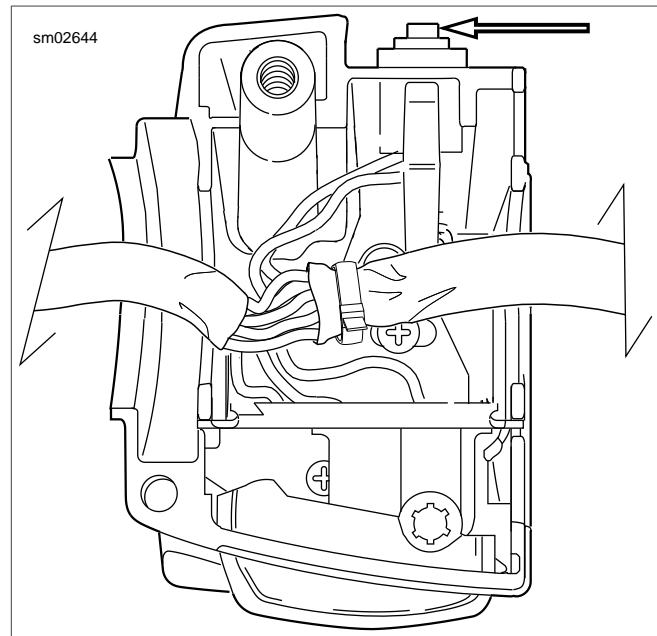

Figure 7-99. Clutch Interlock Switch
2. See Figure 7-99. Cut wires 0.25 in. (6.4 mm) from old switch. Discard switch assembly.